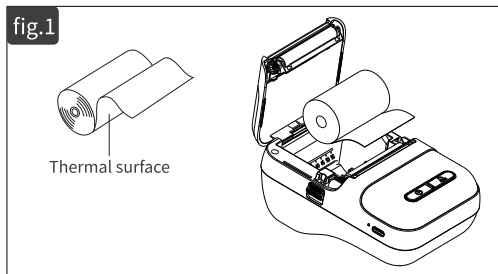

fig.2
- ② There is a blue spool holder bracket that should be snug against the paper. Push forward to lock the paper before printing, and push back to unlock. (**fig.2**)
Click"install immediately".(fig.2)